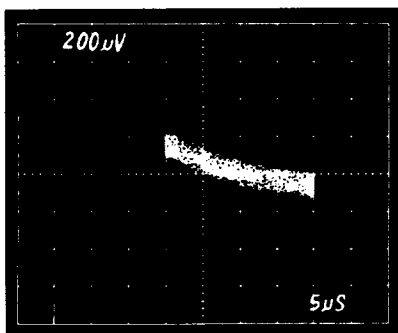

Figure 12. Dielectric Absorption
During  $T_B$ , the CONTROL line is high, the AD1154 is in the sample mode and the analog input charges the hold capacitor to +10 V. During  $T_C$  the analog input to the SHA is switched to ground, effectively shorting the hold capacitor for the remainder of the sample period. During  $T_A$ , the SHA is switched into hold mode and the hold capacitor is open circuited. The dielectric rebound can be observed on the oscilloscope during  $T_A$ . Refer to Figure 12.
3. Pick  $(R_1||R_2) \cdot C_1$  to be equal to the approximate time constant ( $T_{const}$ ) of the dielectric rebound on the oscilloscope (see photo in Figure 12).